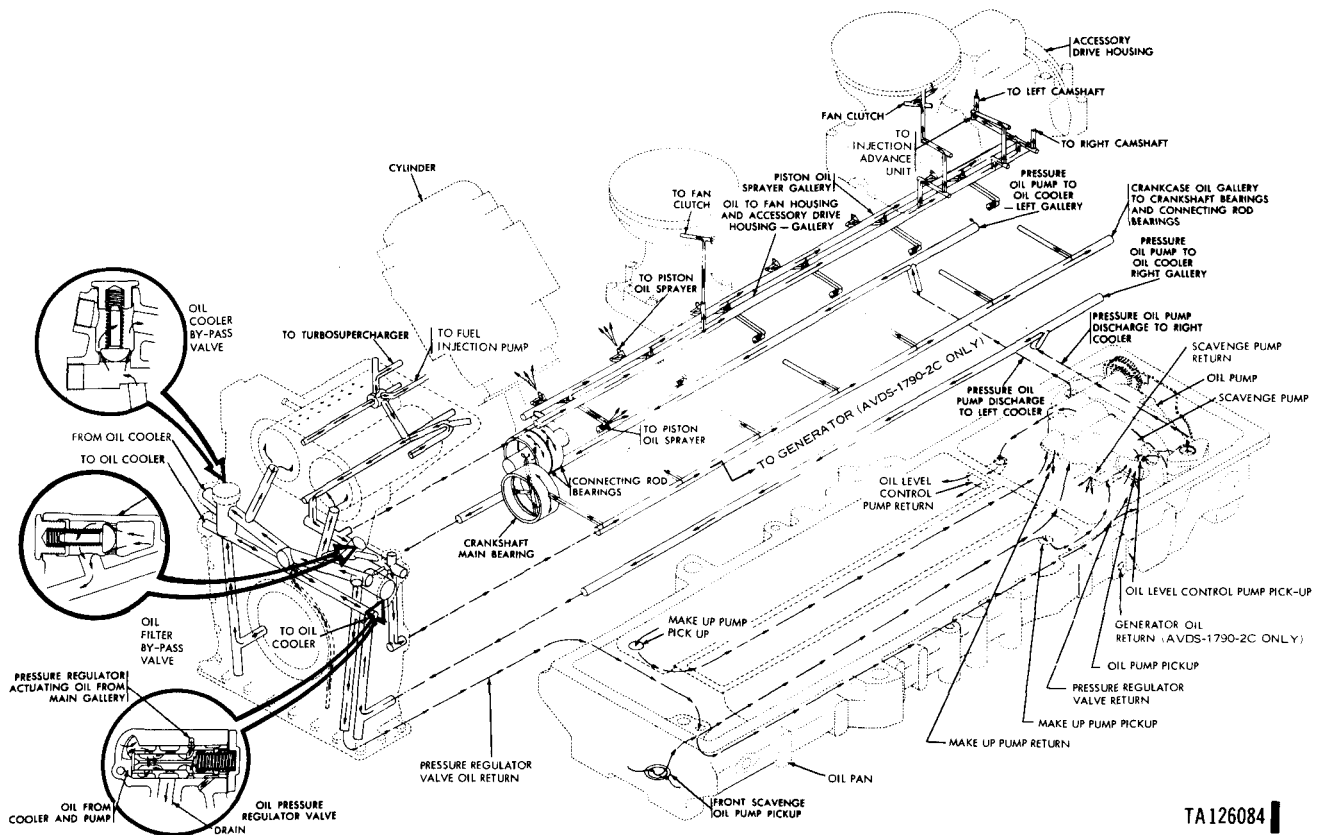

Figure 1-9. Engine lubrication system.
b. All crankpin bearing journals are hollow to reduce weight. Holes are drilled diagonally through each main bearing journal and extend through the crank cheek and crankpin to provide a direct passage for oil under pressure to the connecting rod and crankshaft main bearings as shown in figure 1-9.
d. The torsional vibration damper (45) is a precision viscous type and is replaceable only as an assembly.
(figs. 1-9 and 1-10)